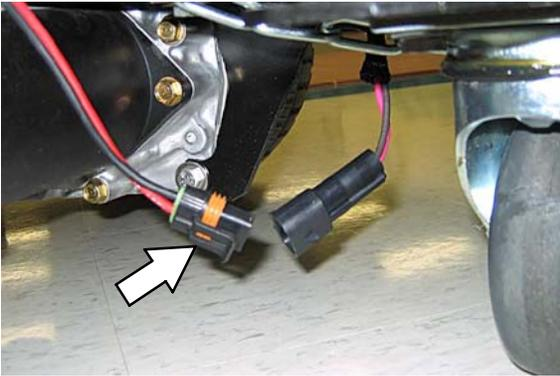

FIG. 10
- Unplug the transaxle wire harness connector to keep machine stationary while testing (Fig. 10).